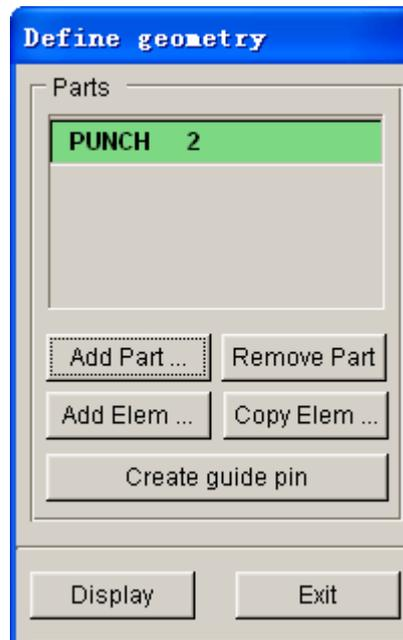

Figure 2.24 Punch geometry list
- Click **OK** button to return to the DEFINE GEOMETRY dialog box. **PUNCH** part is added to the list of punch. See Figure 2.24.